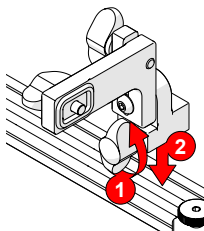

Fig. 20 - Mount to frame bar
2. Loosen the bar clamp knob of the Tracker mounting bracket **1** (Fig. 20).
3. Place the Tracker mounting bracket's dovetail jaw in the frame bar **2** (Fig. 20).